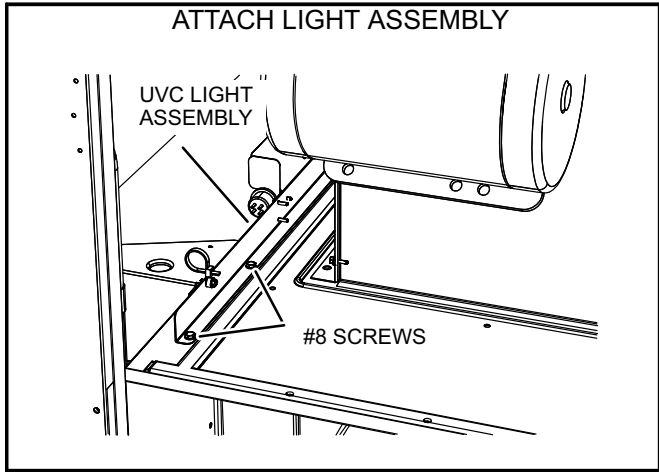

FIGURE 35
- 8- Carefully place the UVC assembly on the blower deck. Line up the mounting holes on the UVC assembly with the mounting holes on the blower deck. See figure 35. Use the #10 screws provided to attach the UVC assembly in place.